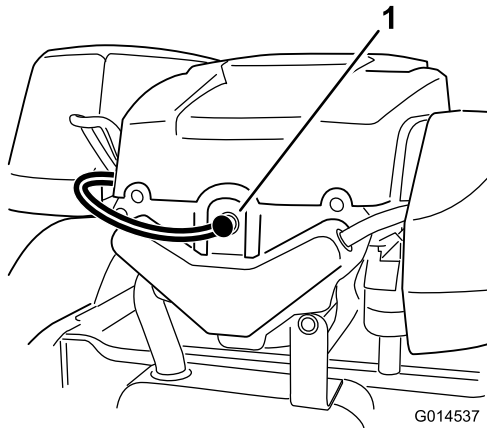

Figure 33
2. Pull the wire off of the spark plug (Figure 33).
3. Push the wire onto the spark plug (Figure 33).